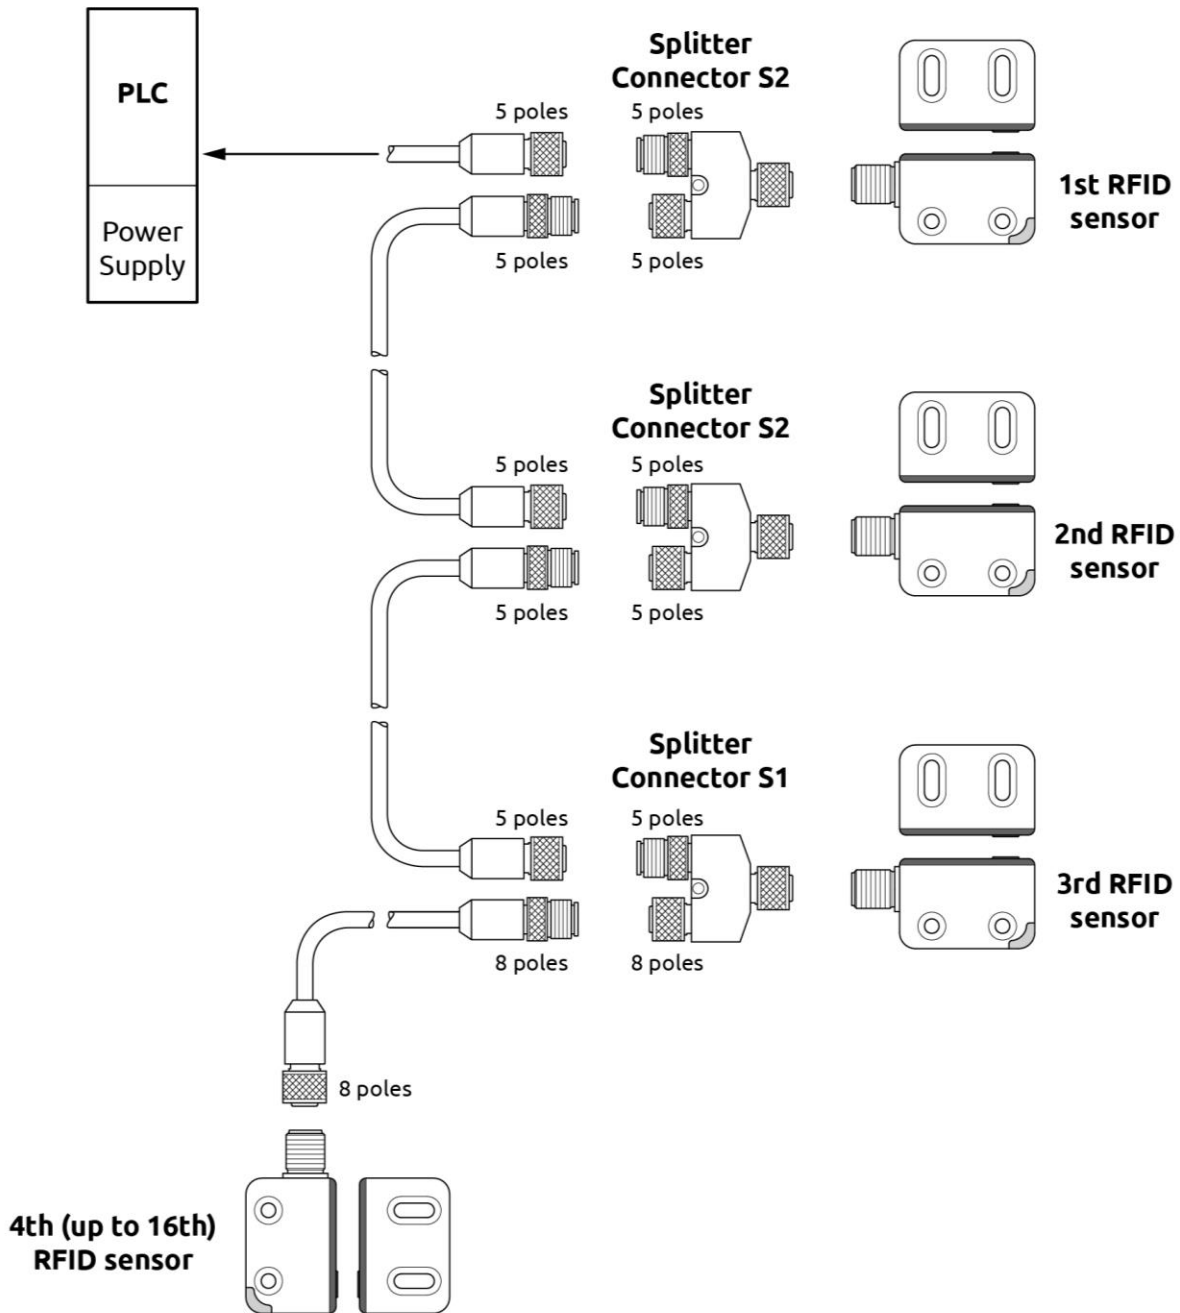
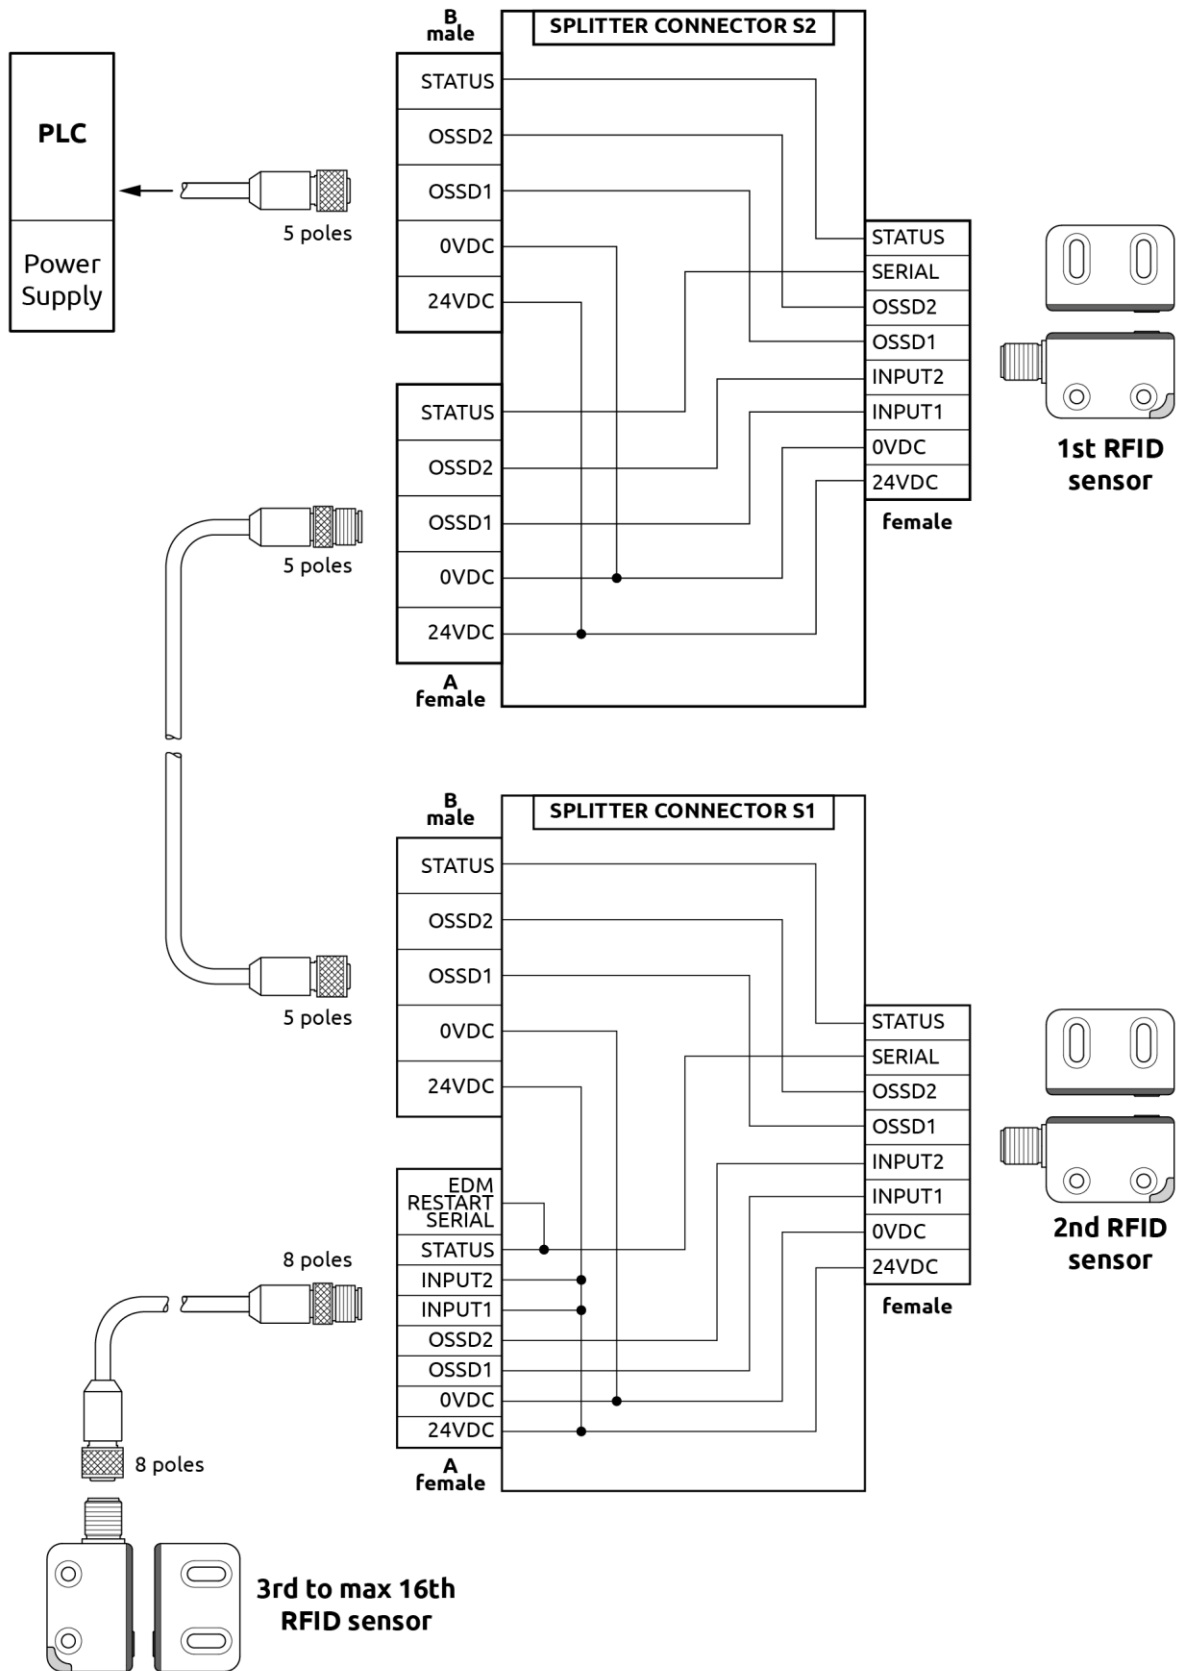

Figure 32 - Serial mode (Automatic)
Figure 33 - Serial mode wiring (Automatic)
- ➔ For a quicker and safe connection, Reer recommends using its splitter connectors as showed in Figure 32 and Figure 33.